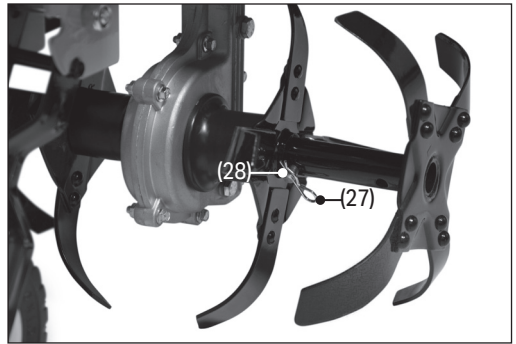

Fig. 24
- a. Remove the locking pin (27) and barrel (28) from each side of the tine assembly (Fig. 24).